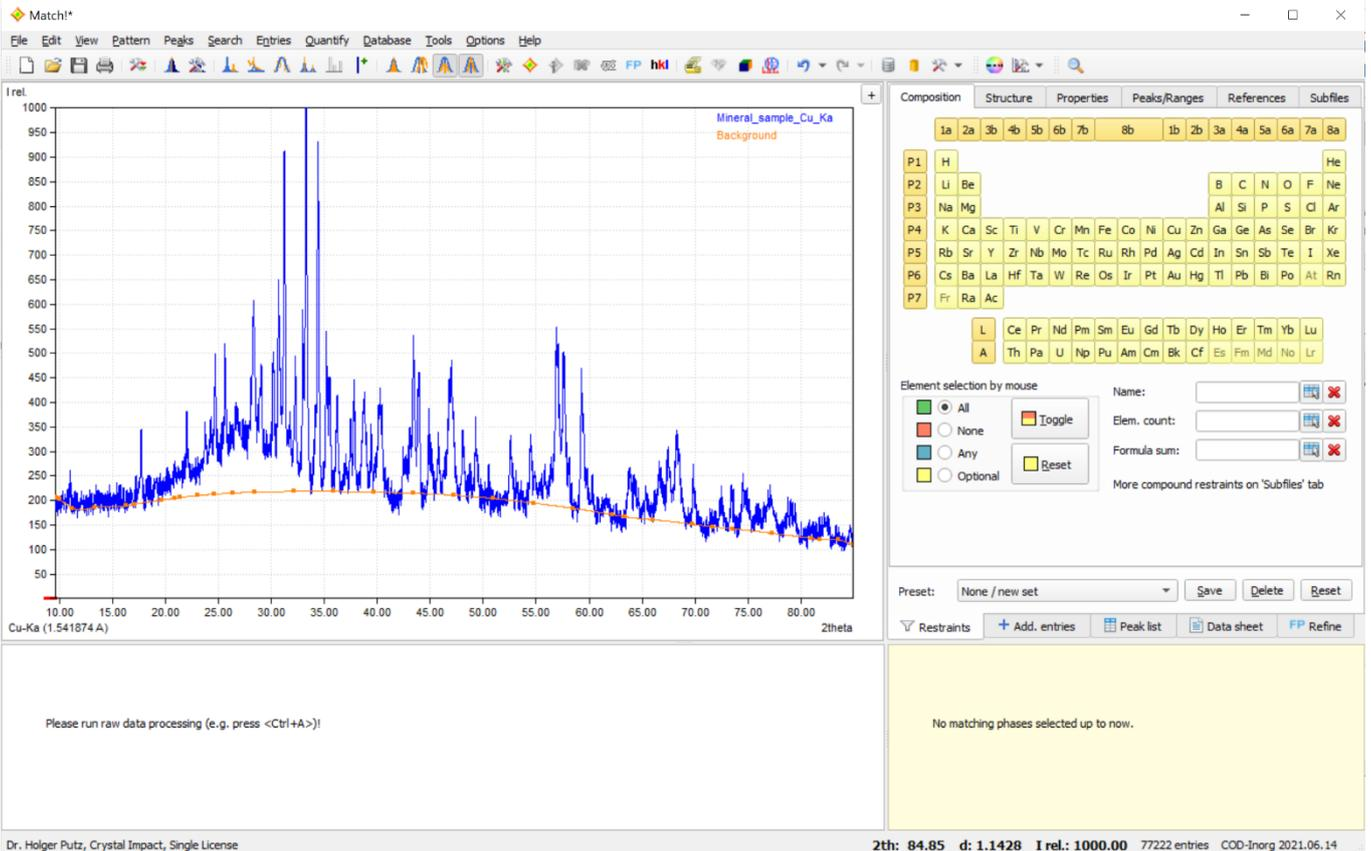

Fig. 21: Your sample's diffraction pattern has been imported for degree-of-crystallinity analysis (DOC).
4. Define/check/modify the background so that it clearly separates the diffraction peaks from the background (Fig. 21).